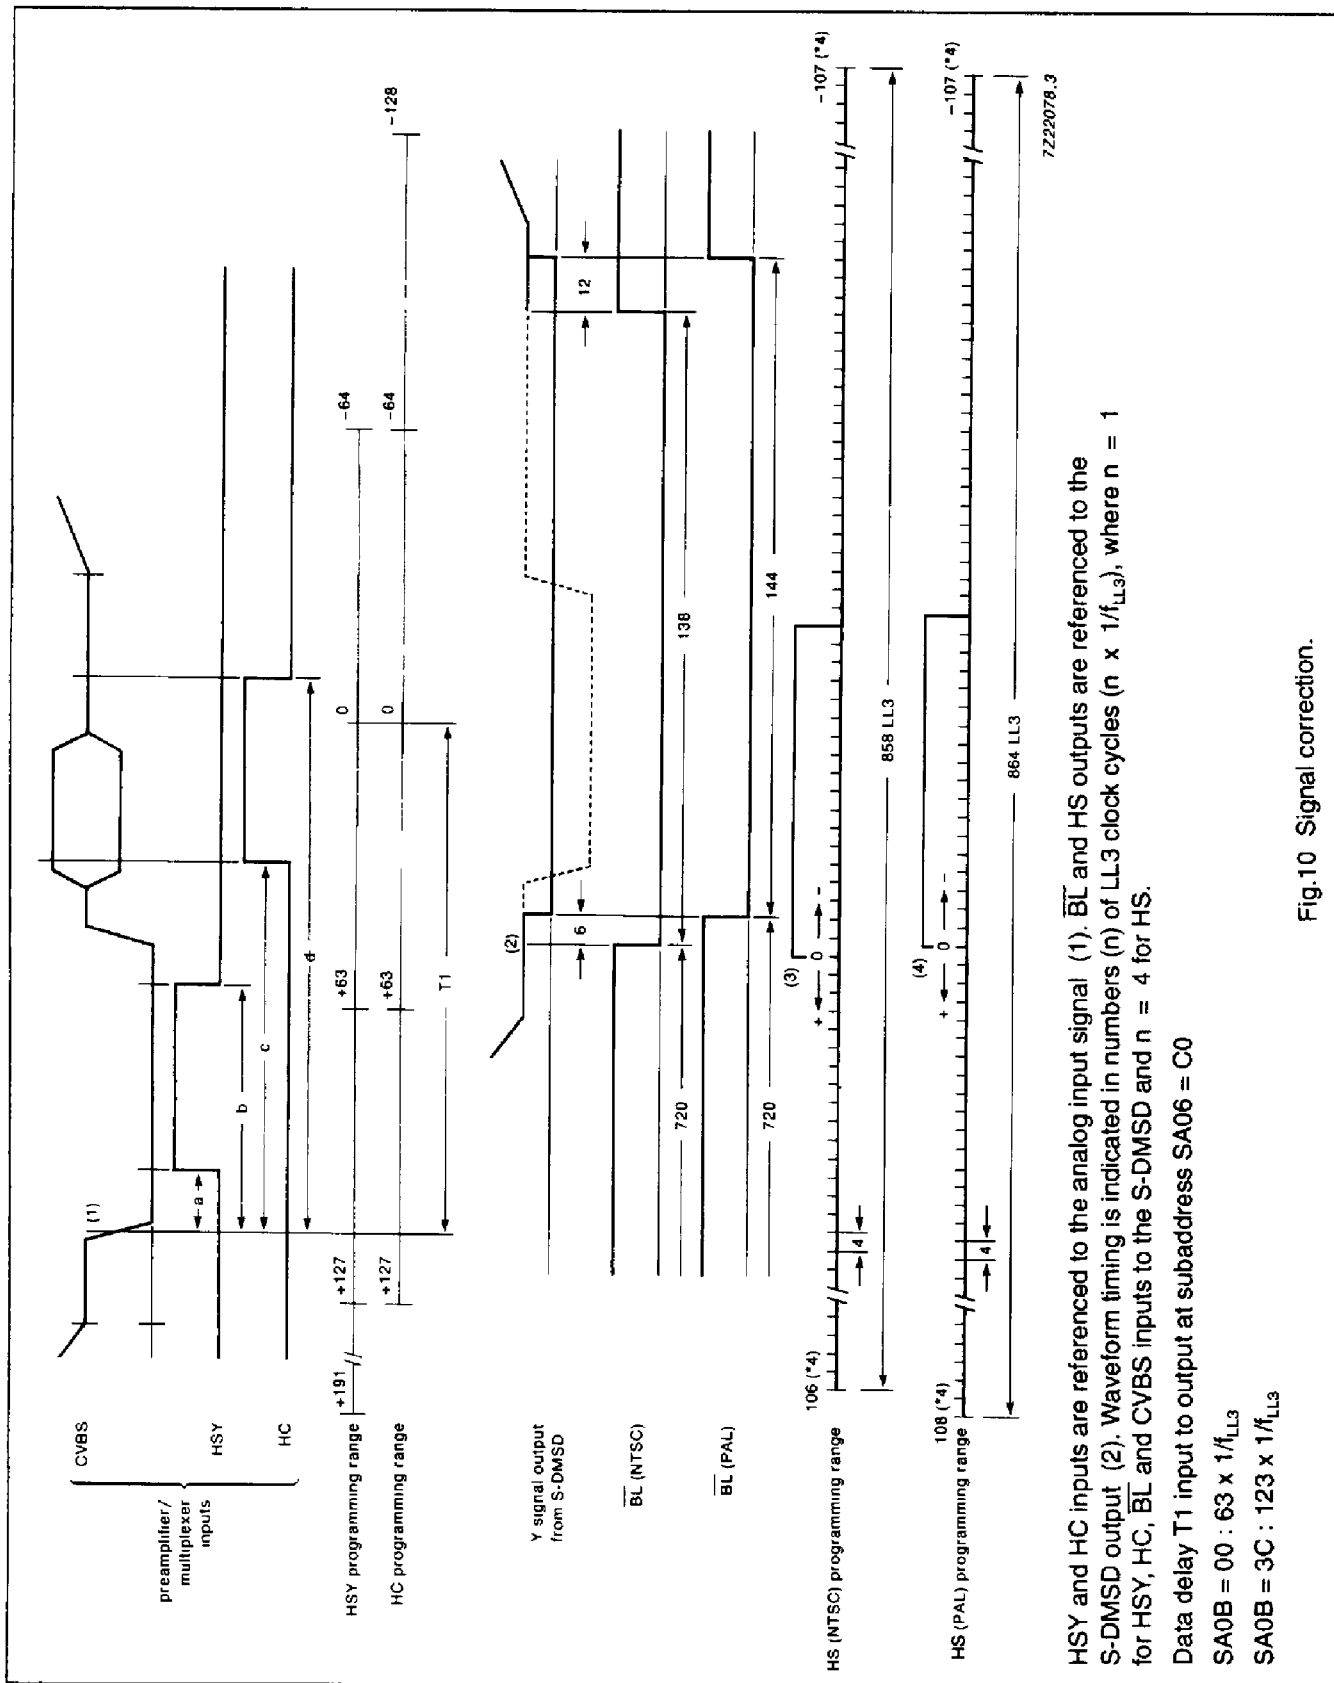

Fig.10 Signal correction.
Referring to Fig.10 point (1) and periods a and b:
Referring to Fig.10 point (1) and periods c and d:
The HS reference positions in PAL and NTSC modes are shown in Fig.10 at points (3) and (4) respectively. To move the HS pulse to the centre of blanking pulse  $\overline{BL}$  the following equation is used: